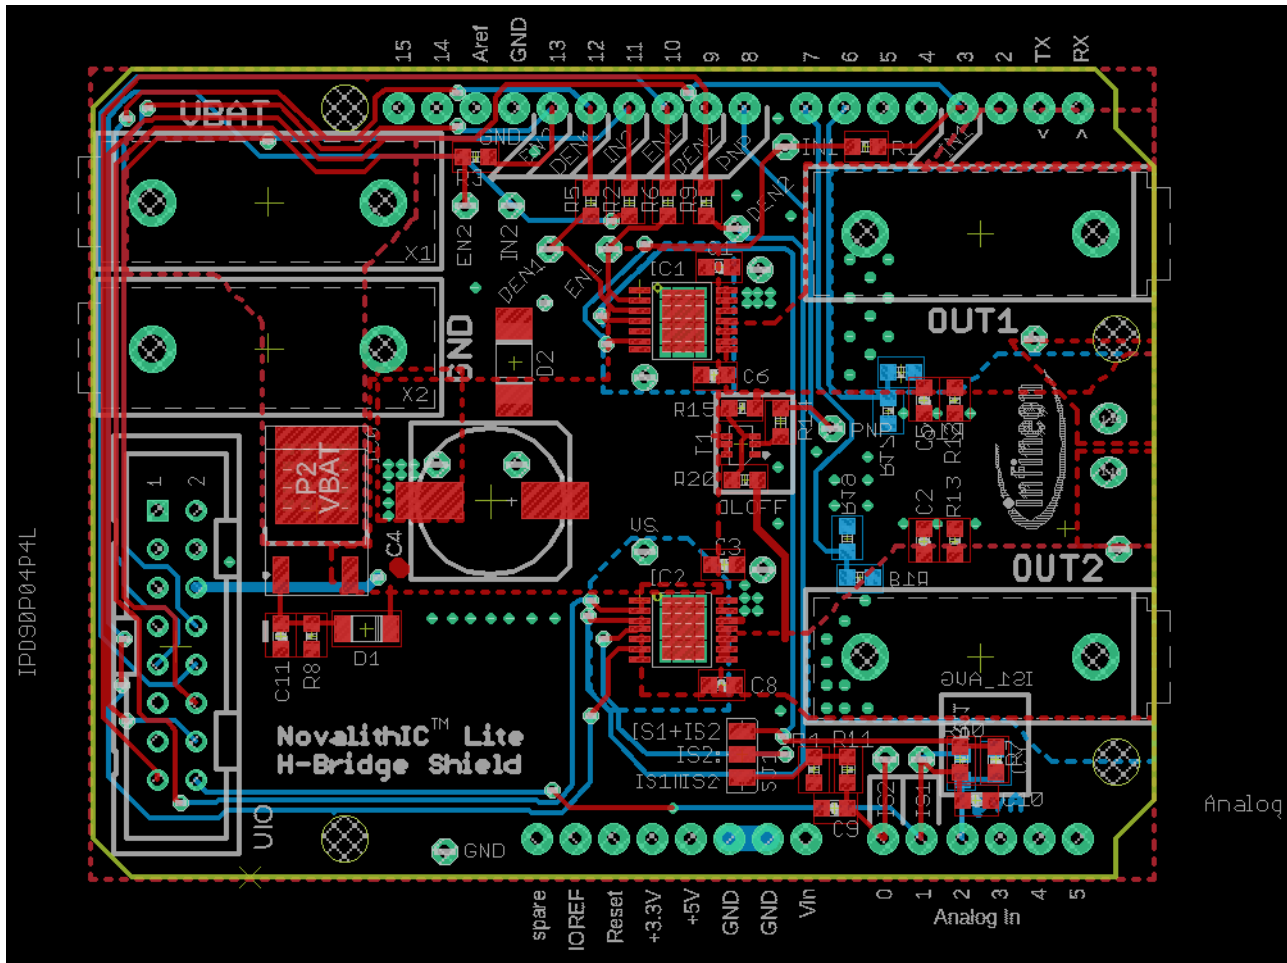

Figure 4 Motor Control Shield for Arduino with BTN7030-1EPA – Layout
- C4, so called DC-link capacitor: This electrolytic capacitor is required to keep the voltage ripple at the VS-pin low during switching operation. It is usually recommended that the voltage ripple at the Vs-pin to the GND-pin is kept below 1 V peak to peak. The value of C4 must be aligned accordingly. Most electrolytic capacitors are less effective at cold temperatures. It must be assured that C4 is also effective under the worst case conditions of the application. The layout is very important too. As shown in **Figure 4**, the capacitor C4 must be positioned with very short wiring close to the NovalithIC™ Lite chip. This must be done to keep the parasitic inductors of the PCB-wires as small as possible. On this shield capacitor of 330 uF is mounted.